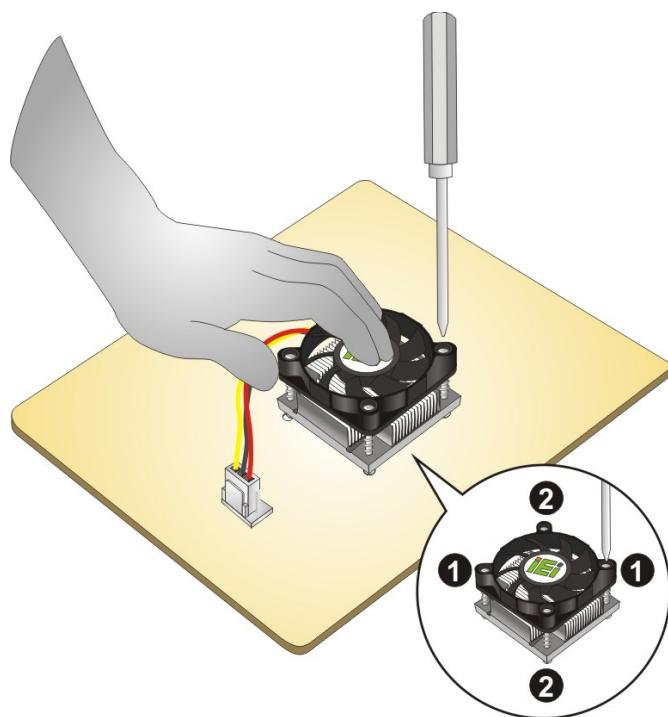

Figure 4-3: Secure the Cooling Kit
Step 4: **Place the cooling kit onto the CPU.** Push down the fan with some pressure to secure the cooling kit with the support bracket. See **Figure 4-3**.
Step 5: **Tighten the screws.** Use a screwdriver to tighten the four screws. In a diagonal pattern, tighten each screw a few turns then move to the next one, until they are all secured. Do not overtighten the screws. See **Figure 4-3**.